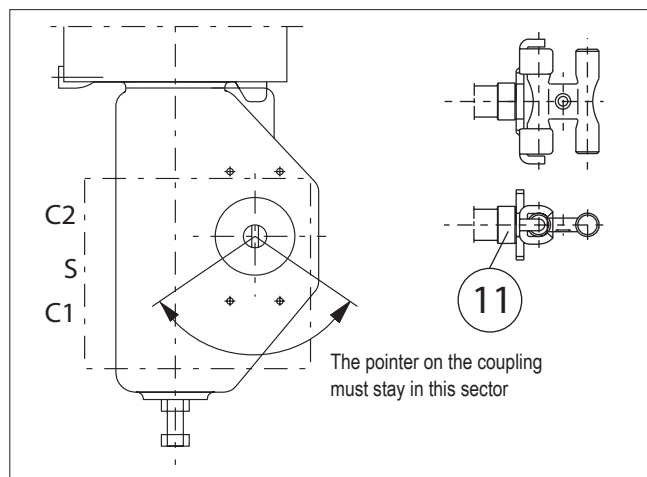

Fig. 3. Mounting on Neles actuator with VDI/VDE mounting face
- Mount the H-shaped coupling (47) to the shaft. Apply the thread-locking compound to the screw (48) and tighten firmly.
- Remove all protective plastic plugs from the pneumatic connections (5 pcs.). Mount the metal plugs (54) with sealant to the unused controller connections at the bottom of the controller.
- BJ and other single acting actuators: mount a metal plug (53) with sealant to the C1 connection.
- Set the direction arrow of the actuator in the direction of the valve closure member and attach the ear (2) to the indicator cover in the position shown in Section 12.5–12.7. Secure the screw of the ear using e.g. Loctite and tighten firmly.
- Attach the bracket (1) to the ND.
- Attach the bracket (1) to the actuator. The shaft coupling of the ND must fit into the ear (2) so that the pointer of the shaft washer (16) is located in the position shown in Fig. 3.
- Remove the protective plastic plugs from pneumatic connections C2, S and C1. Leave the metal plugs (54) in the unused connections at the bottom of the controller.
- **BJ and other single acting actuators:** install a metal plug (53) with sealant to the C1 connection.
- Attach the bracket (1) to the controller.
- Attach the bracket (1) to the actuator. The shaft coupling of the controller must fit into the ear (2) so that the pointer is located in the position shown in Fig. 3.